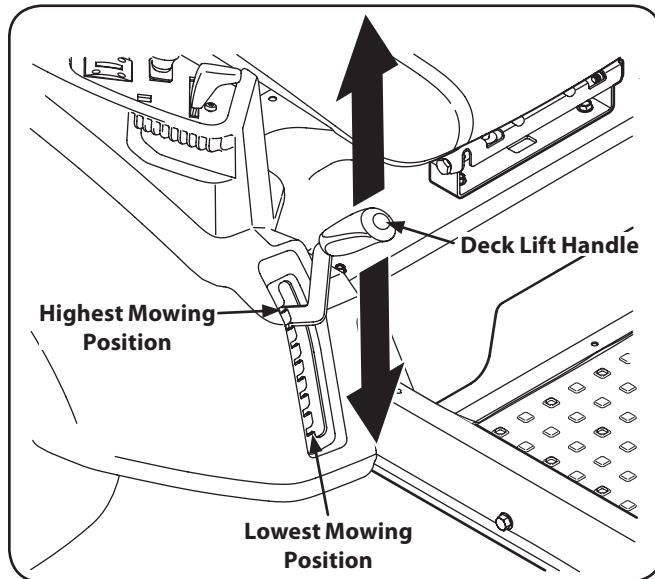

Figure 7-3
2. Using the deck lift handle, raise the deck to the position that provides the most horizontal run of the belt between the deck idler pulleys and the PTO pulley on the bottom of the engine. See Fig. 7-3.
6. Lower the deck into the lowest position using the deck lift handle. See Fig. 7-3.
1. Place the deck lift handle in the highest mowing position See Fig. 7-3.